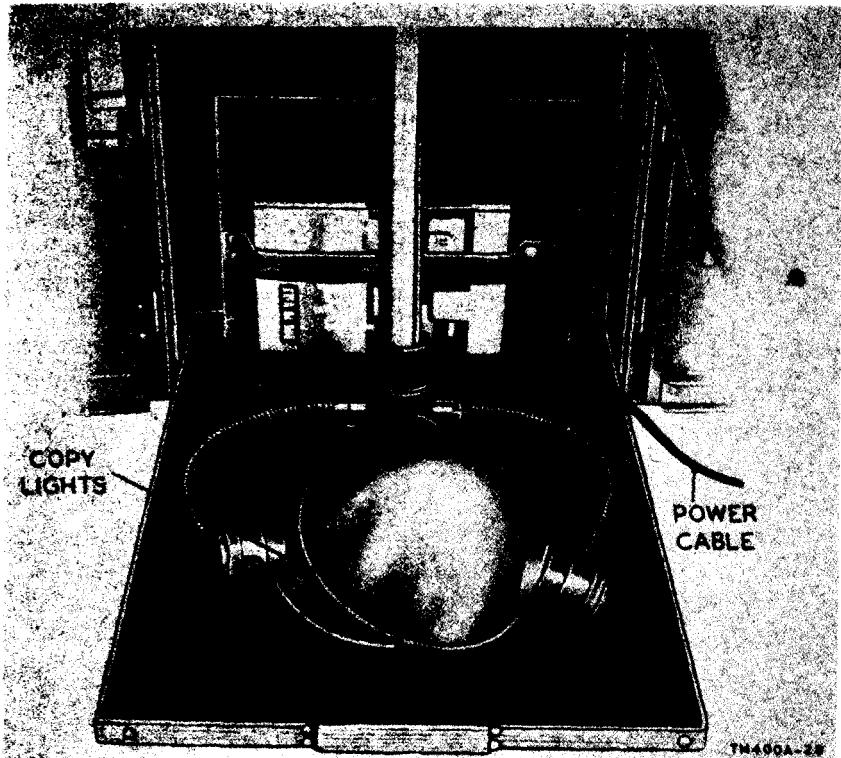

Figure 28. Copy lights in position for closing Photographic Set ES-12 (1).
- (1) Return all equipment and supplies to the proper storage spaces. Tighten all holding screws and doors and fasten the holding straps.
- (2) To close the door of the right-hand section, swing the timer forward and out of the way. After the door has been fastened, press the timer back.
- (3) Lower the printer bracket as far as it will go on the column. Remove the negative carrier from the enlarger and store it in the compartment of the case.
- (4) Wind the extension power cable snugly around the pegs and place the copy light cable above it on the pegs.
- (5) Bend the copy lights (fig. 28) down flat against the base-board with no part extending beyond its edges. Close the case and secure the fastenings.